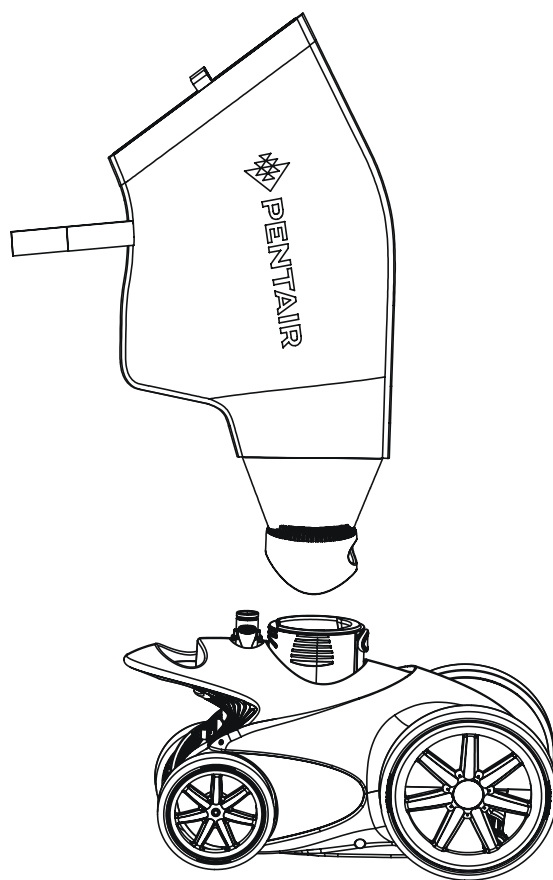

Figure 22.
1. To install the tire wedge, pull the rubber tire up from the plastic wheel and firmly push the insert between the tire and wheel. The smooth surface on the underside of the wedge should be inserted first, from the outside to the inside of the cleaner wheels. **See figure 22.** Be sure that the slots on the plastic wheel and the slots on the underside of the wedge lock into each other.